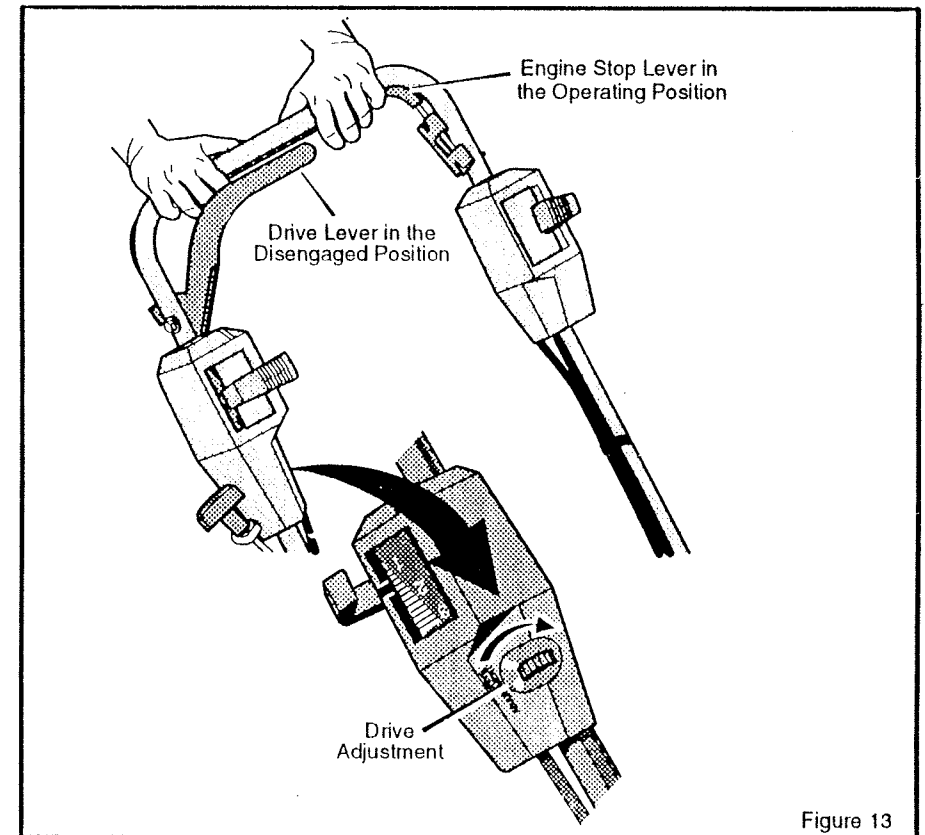

Figure 13
- Turn the **drive adjustment** approximately two complete turns in the direction shown in Figure 13.